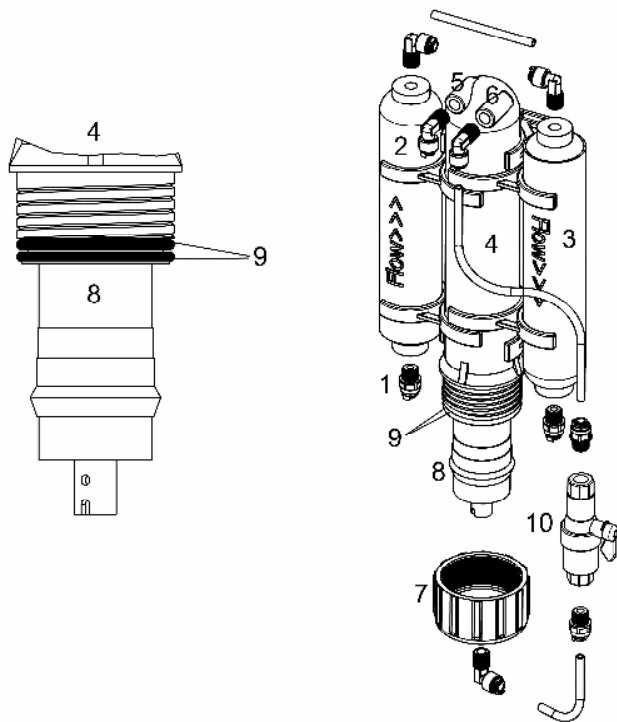

Fig. 1:
The connections of the unit are (please refer to Fig. 1):
Remove the screw cap of the module housing (Fig. 1, No. 4). Take the membrane out of the plastic bag and put it into the reverse osmosis module. Take care to insert the membrane in the right direction (Fig. 2, No. 2) with both sealings (Fig. 2, No. 1) directed to water outlet. The membrane has to be pushed forward until the 2 sealings are in the right position at the top and the pure water sealing (Fig. 2, No. 3) is fixed. Before the housing can be closed, mount the O-rings (Fig. 1, No. 9) on the reverse osmosis module.
- **Rinsing:** For rinsing the membrane, the flush valve (Fig. 1, No. 11) has to be opened. Afterwards, the water flows at full speed through the reverse osmosis module and flushes most contamination and residues.